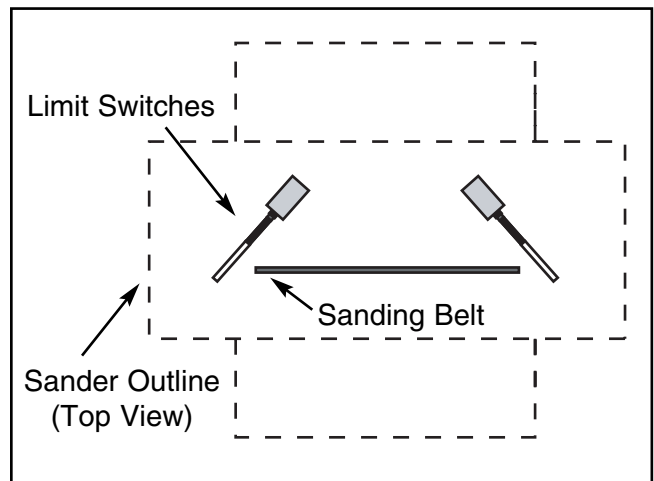

Figure 11. Proper position of belt between the limit switches.
5. Install the sanding belt by starting first on the upper roller and then the lower roller. Note—*The sanding belt must be centered between the limit switches. If either edge of the sanding belt is touching either limit switch, turn the belt tension switch off and adjust the belt until it is properly centered as shown in **Figure 11**.*